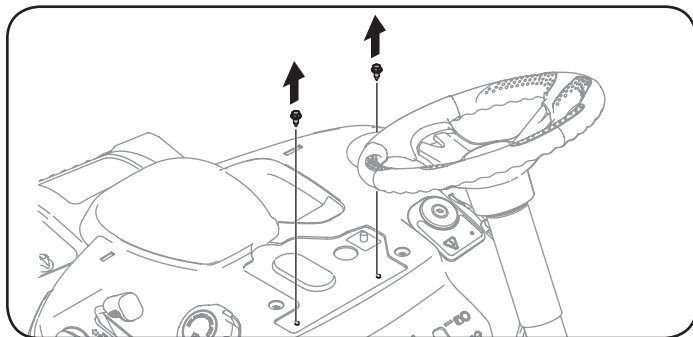

Figure 6
2. Remove the two self-tapping screws factory installed on the tractor. See Figure 6.